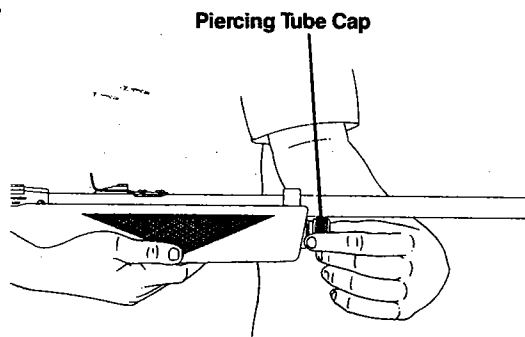

Fig. 2
- Holding the rifle by the forend, slowly turn the piercing tube cap allowing the release of the remaining CO₂ before removing the cap. (Fig. 2)